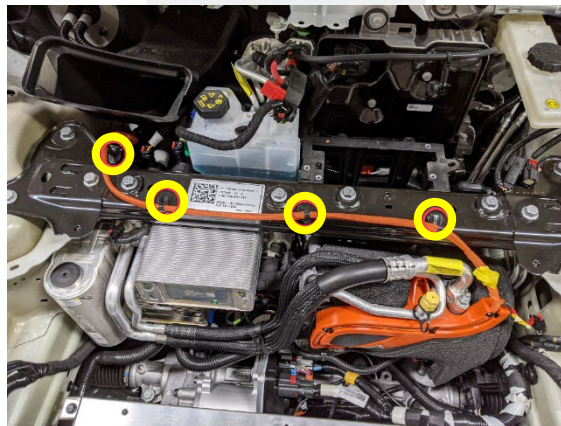

Figure 2
4. Release the clips (x4) that attach the HV harness to the shock tower brace (Figure 2).